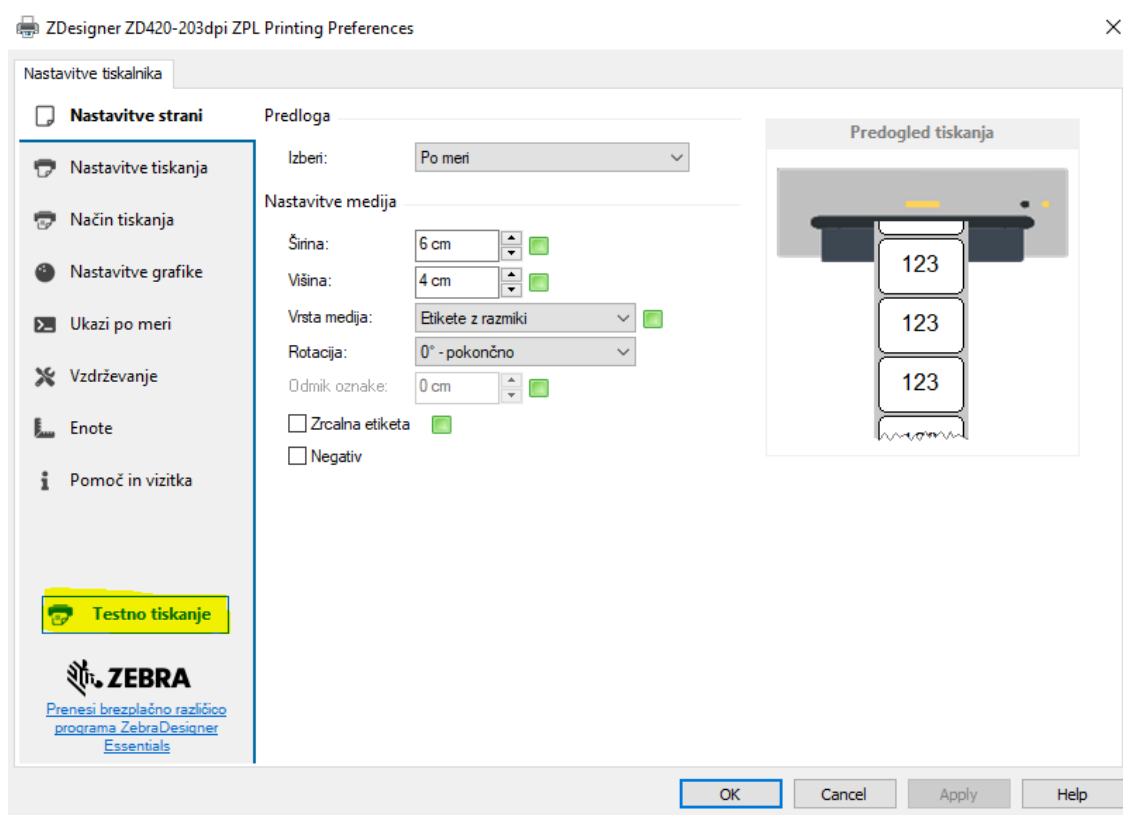

Figure 12: Printing test page
- Figure 12: Printing test page7
If the labels cannot be printed properly after installing the drivers and setting the logical destinations, firstly check if the printer responds in the operating system on which it is installed. In the **Control Panel**, select **Devices and Printers**. All available printers will be displayed. Select the printer *ZDesigner ZD220-203dpi ZPL* and double-click on it. In the additional options, select **Printing preferences**. A window will open, where you select **Print test page** on the bottom left side of the window (see Figure 12).